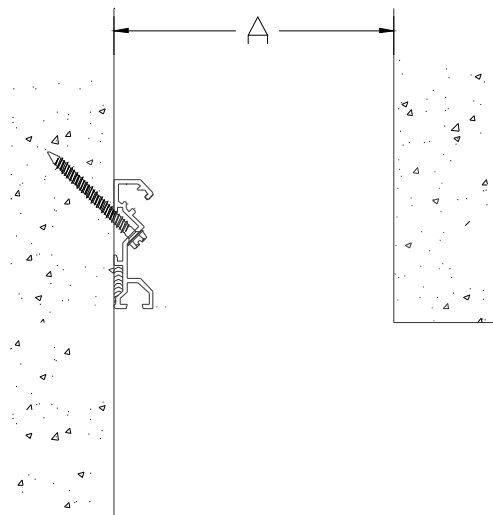

Figure 5
STEP 8. Using the fasteners provided by the factory, attach the base member to the wall, see Figure 5. Ensure that the base member remains properly aligned, level, and straight.